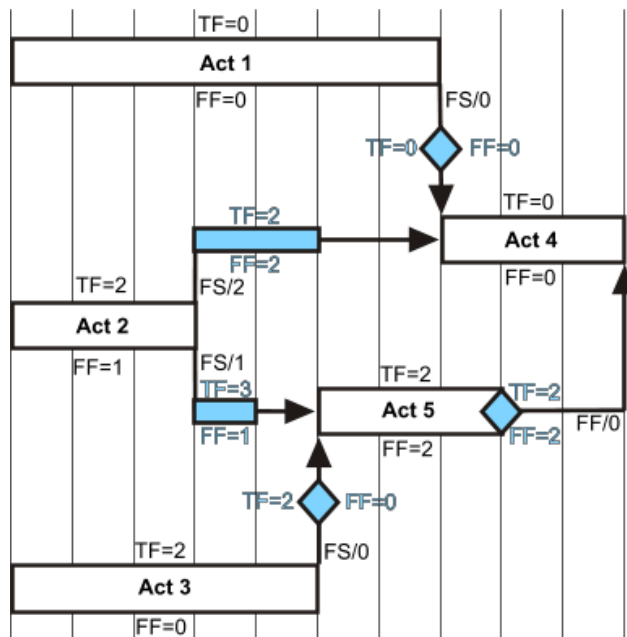

Figure 30 – Relationship Float Computed
The blue 'activities' representing relationships can now have their CPM early and late dates calculated and the total float (TF) and free float (FF) calculated from this. These values are shown in blue in Figure 30 below,